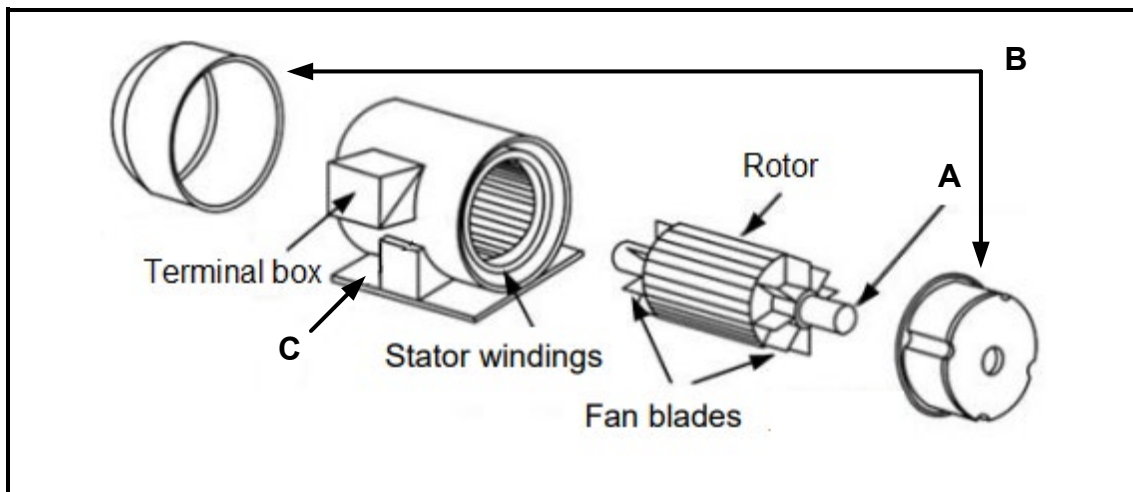

FIGURE 6.1: EXPLODED VIEW OF A THREE-PHASE MOTOR
6.1 FIGURE 6.1 below shows an exploded view of a three-phase motor. Answer the questions that follow.